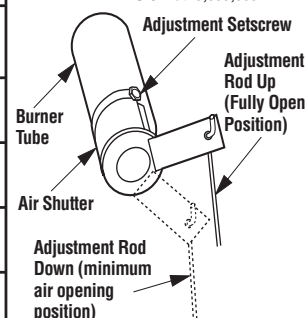

Figure 57
1. Locate adjustment rod and adjust air shutter to the standard setting as shown in **Figure 57** (adjustment rod is located in the lower control compartment).